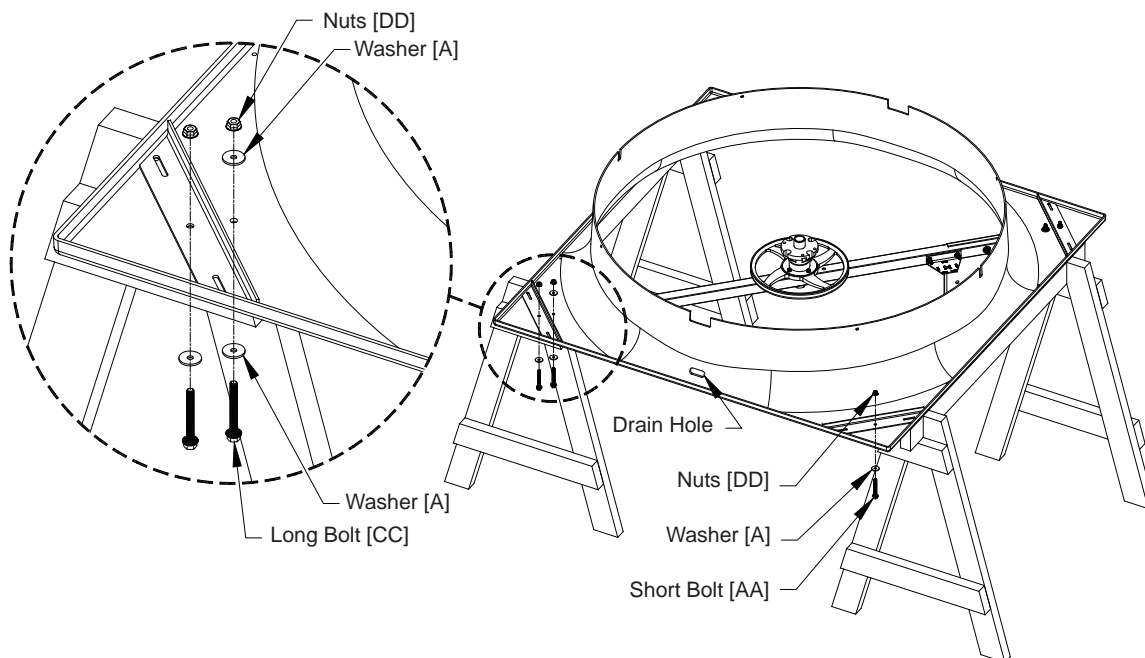

Figure 6
The corners of the Fiberglass Orifice with 2 holes are the corners where the Support Assembly attaches. Attach the Support Assembly using (4) Long Bolts [CC], (6) Washers [A] and (4) Nuts [DD] and in the opposite corners attach the Cone/Strut Mounting Bracket to the orifice using Short Bolt [AA], Washer [A] and Nut [DD]. See Figure 6